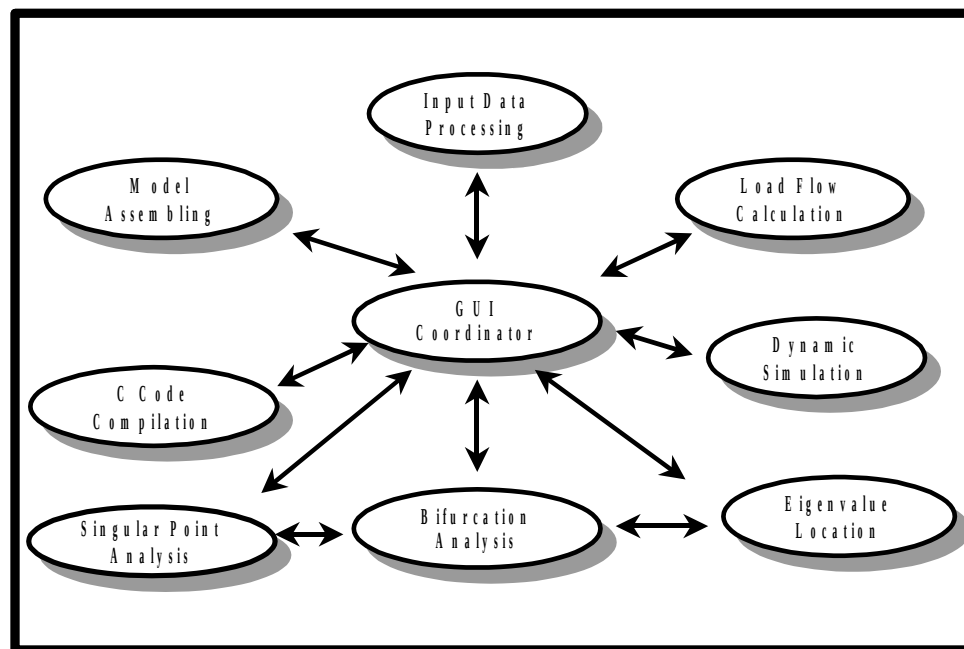

Fig. A.1 The schematic of VST
Voltage Stability Toolbox (VST) has been developed to investigate stability and bifurcation issues in power systems. The VST integrates the symbolic and numeric computations with a graphical menu-driven interface based on MATLAB and its Extended Symbolic Toolbox. It implements symbolic computations to build exact load flow equations and Jacobian matrices including 2nd –order derivatives, required to implement numerical computations such as Newton-Raphson (NR) and Newton-Raphson-Seydel (NRS) for bifurcation analysis. The numerical calculations of solutions for power system equations are performed and controlled via a graphical user interface (GUI). The GUI makes the complex theoretical backgrounds readily accessible to power system engineers who use them to solve practical problems. It has proved to be a useful tool for education and research in the area of power system stability analysis. Even a user not well versed in the mathematics of bifurcation analysis can easily experiment with standard test systems or construct one of his/her own. An experienced user can exploit MATLAB's open architecture to implement and experiment with alternative computational algorithms. Fig. A.1 shows a schematic of the VST.